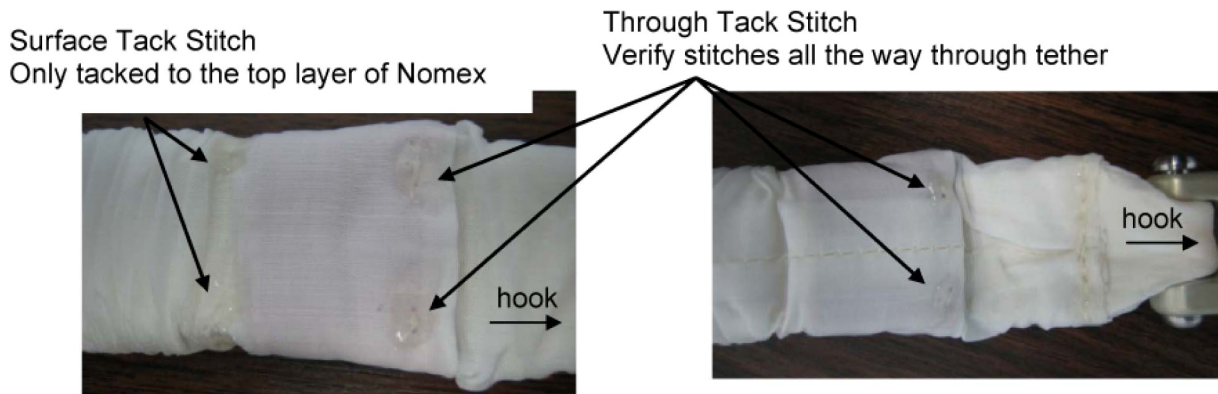

Figure 5. Top View (Non-Seam Side) and Bottom View (Seam Side).
- 1.4.1 Verify through stitches still intact by gently moving sheath away from hook to expose threads through Nomex. Refer to Figures 5 and 6. Once verified, gently replace sheath over red indicator.